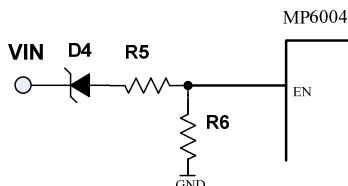

Figure 4—VIN UVLO setting with EN control
In flyback mode, the maximum on time is limited at about 8 µs. The secondary-side rectifier diode conduction time should be longer than 3 µs for FB1 feedback sampling. If V_{IN} decreases and the inductor current cannot ramp the I_{PK} to setting value within the maximum on time, the diode conduction time decreases to less than 3 µs, causing FB1 feedback sample failure. The MP6004 treats this failure as a V_{OUT} drop and generates more pulses, causing V_{OUT} to overshoot. In this condition, EN can be used to program V_{IN} UVLO and shuts down the part before V_{IN} drops (triggering the maximum on time). Since the EN high-level voltage is 3.9 V and the low-level voltage is 1.3 V, it is hard to program the V_{IN} UVLO with a small hysteresis. In this condition, one resistor divider and one Zener diode is recommended (see Figure 4).
There is an internal Zener diode on EN, which clamps the EN voltage to prevent runaway. The maximum pull-up current for the internal Zener clamp (assuming 6.5 V) should be less than 0.5 mA. If EN is driven with an external signal, use a signal voltage less than 6.5 V or connect EN to the signal through a pull-up resistor that ensures the maximum pull-up current is less than 0.5 mA. If using a resistor divider (see Figure 4) and $V_{IN}-V_{ZENER}$ is higher than 6.5 V, the minimum resistance for the pull-up resistor R5 should be calculated with Equation (10):